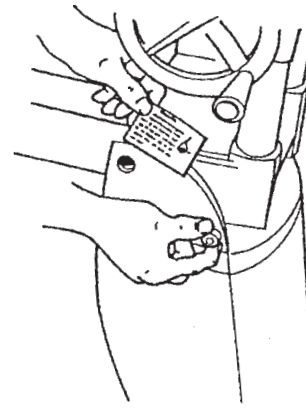
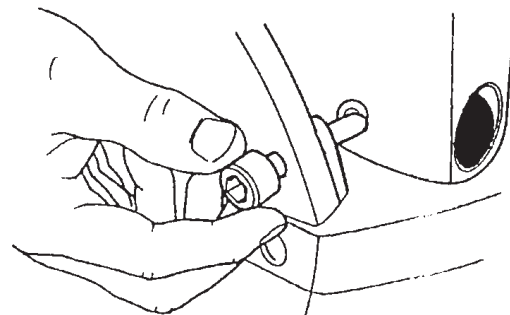

Figure B-47
Figure B-48
7. See Figure B-47. Use your fingers to screw in the base lock (2). Note the base lock is slightly off center to the countersink found in the bench base, as shown in Figure B-48. This offset allows the base lock to more firmly hold the base in place.